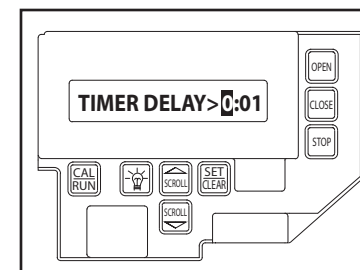

Fig. 5C Set Timer Delay
7. Press the SCROLL ▼ key until display reads "TIMER DELAY> 0:01 " display. (Fig. 5C).